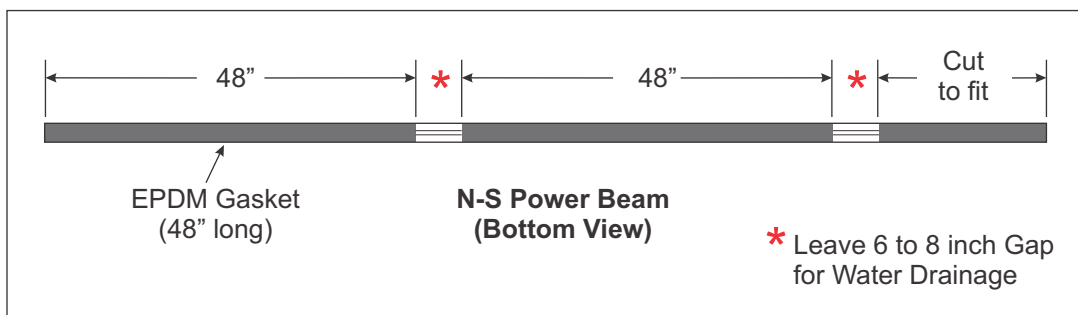

Figure 3-2: Arranging EPDM Gaskets on N-S Power Beam
- C. Position the N-S Power Beams with the EPDM rubber gaskets resting on the roof surface. (See Figure 3-2)